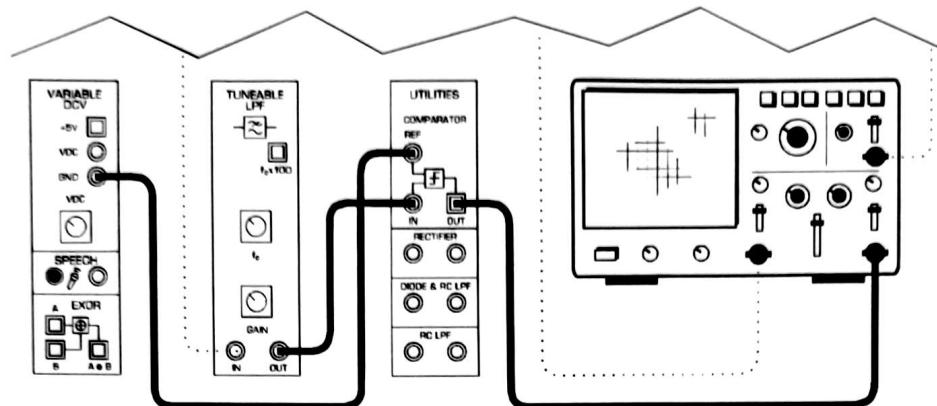

Figure 13
40. Modify the set-up as shown in Figure 13 below.